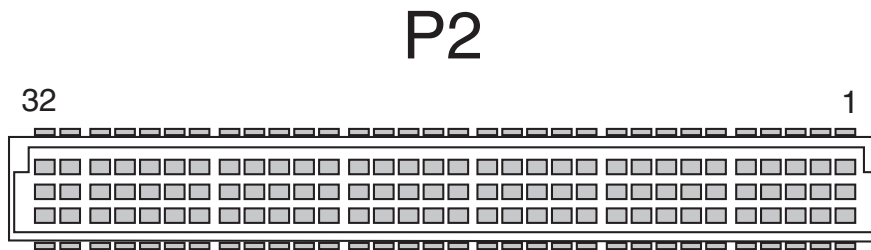

Figure 1-3 VME64 Connector (P2)
- Figure 1-3 VME64 Connector (P2) 14
The P2 connector is a standard VME64, five row connector. The connector is used to route all the signals from the backplane to the ACC-603RC connectors. Figure 1-3 below illustrates the P2 connector; Table 1-1 below is the connector pinout.